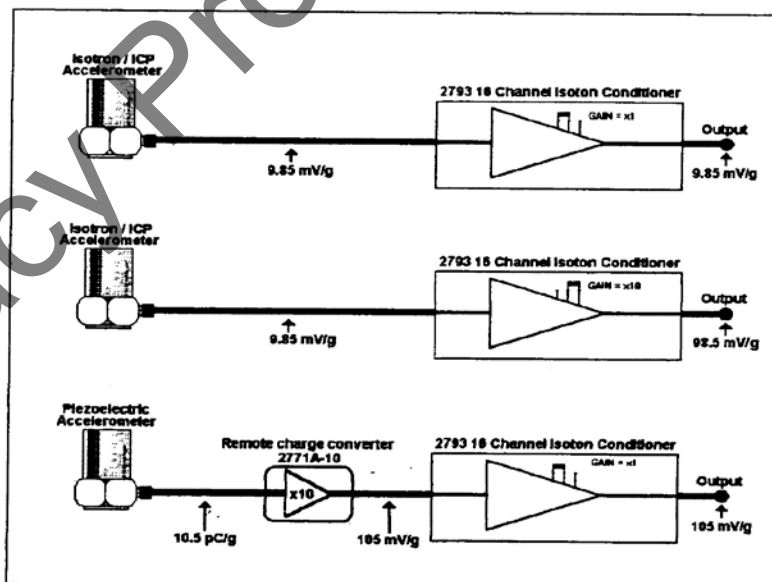

Figure 4
- 3.2.2 Figure 4 shown examples of typical ups.